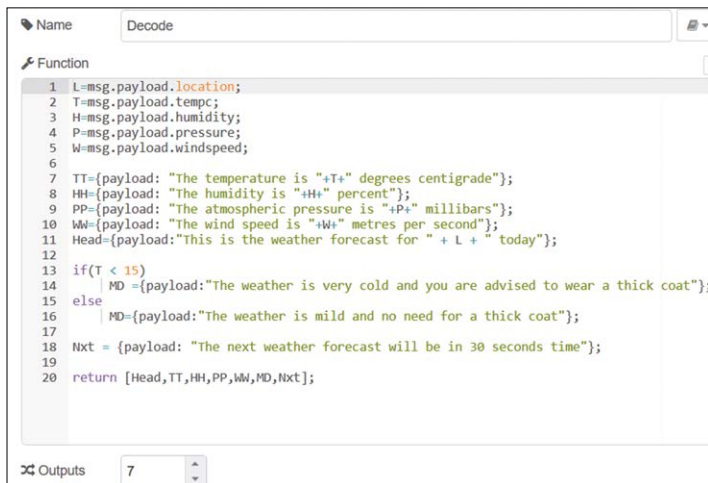

Figure 8.30 Configure node function
- Create a **function** node with 7 outputs and name it as **Decode** (see Figure 8.30). Enter the following statements inside this node. Here, L is the location, T is the local temperature in Degrees Centigrade, H is the local humidity in %, P is the local atmospheric pressure in millibars, W is the local wind speed in metres per second: